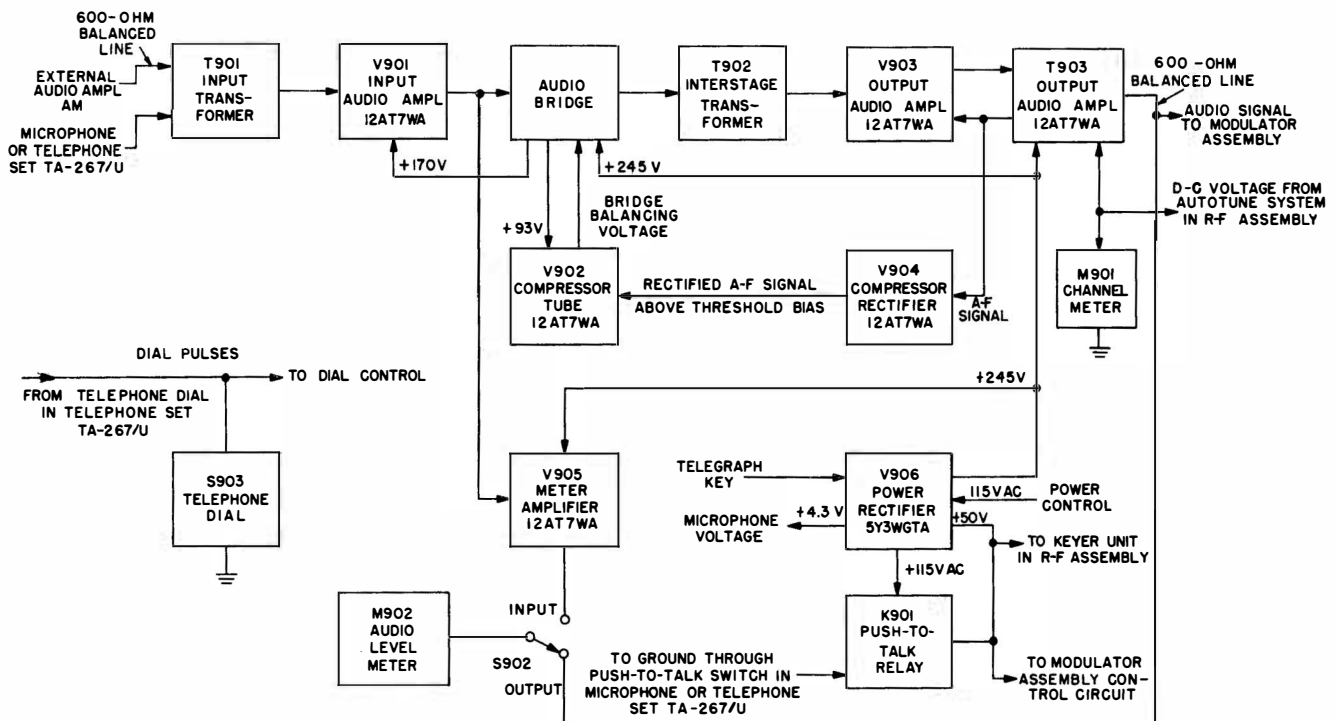

Figure 2-3. Transmitter Control C-1362/FRT-24, Block Diagram
c. TRANSMITTER CONTROL C-1362/FRT-24.—A block diagram of Transmitter Control C-1362/FRT-24 is shown in figure 2-3. An audio signal can be applied by either an external amplifier or microphone to input transformer T901. Telephone Set TA-267/U is also connected to T901. The input signal is amplified by trans-